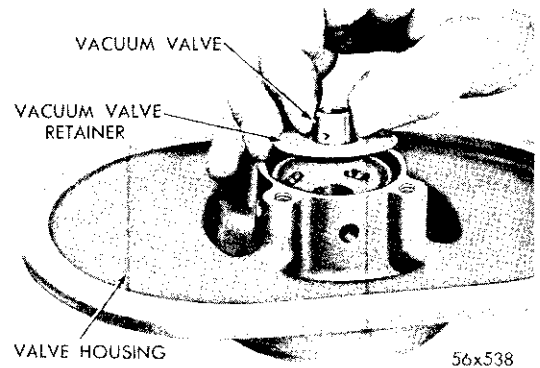
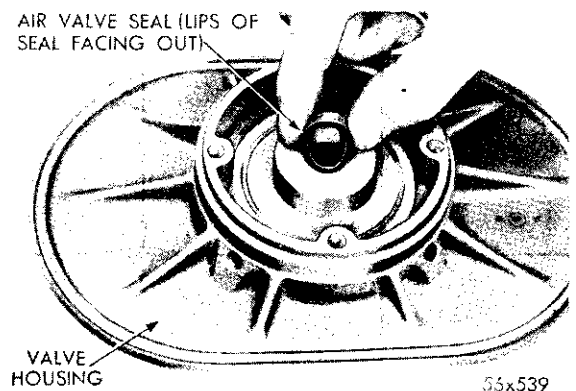

Fig. 32—Removing the Vacuum and Retainer
Fig. 33—Removing or Installing the Air Valve Seal
(21) Remove the seals and discard them. Lift out the vacuum valve and retainer (Fig. 32).
(22) Remove and discard the valve housing to the guide seal.
(23) Invert the valve housing and remove the air valve seal from its groove in the valve body (Fig. 33).
(1) Insert a new air valve seal into the bore of the valve housing (lips of seal facing out when installed). (Refer to Fig. 33.)
(2) Carefully position the new vacuum valve in the retainer.
(3) Invert the valve housing and install the vacuum valve and the retainer in the housing.